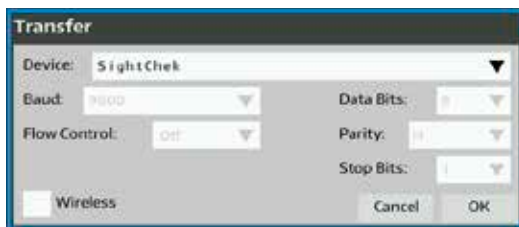

Figure IS-27 Transfer Setting for Sending Data from the previous SightChek
4. Locate the Transfer section of the Communication screen and set the parameters. Refer to Figure IS-27.